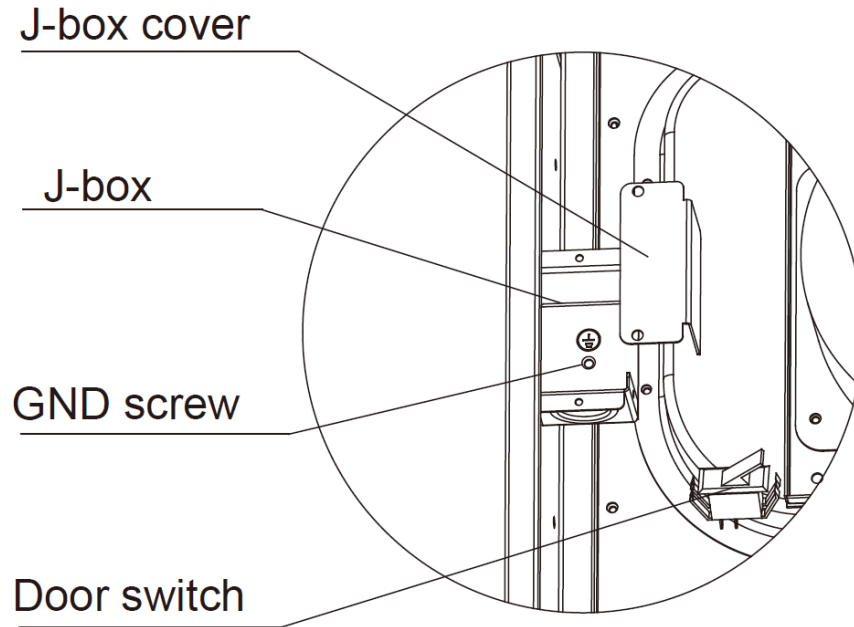

Fig. 6.1- J-Box
4. Remove and save two screws holding J-Box. (See Fig. 6.1.)